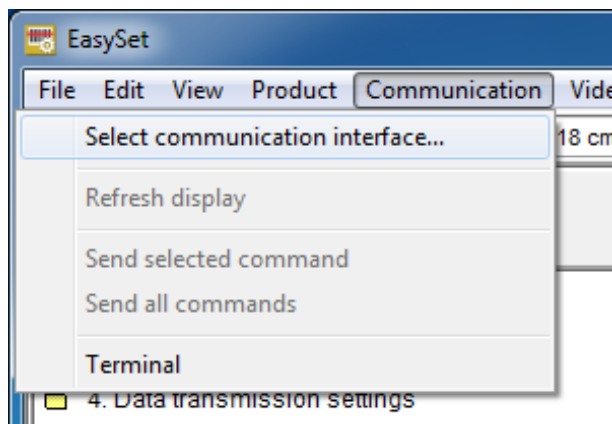

Figure 3-15: EasySet – Communication
Step 6: Click **Communication** on the tool bar and click **Select communication interface** from the drop-down menu (Figure 3-15).